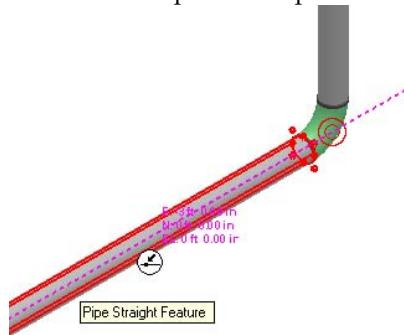

Figure 25: Pipe Straight Feature
16. Now, position the cursor along the **Pipe Straight Feature**, as shown in Figure 25, and click to define the active placement point.